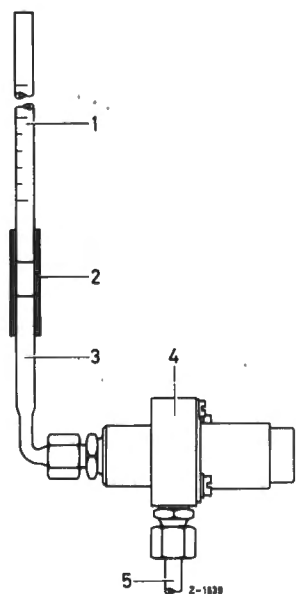

Fig. 00-15/11
Leak checks can be made as follows using the checking device Part No. 111 589 13 21 00 consisting of a measuring tube (1) (glass tube with 0.1 cc graduation), a connecting pipe (3) with a cap nut and a length of hose (2) (see Figs. 00-15/11 and 12):
On the 1st version start valve unscrew the fuel hose from the start valve and instead attach the connecting pipe (3) with hose (2) and measuring tube (1) (Fig. 00-15/11).